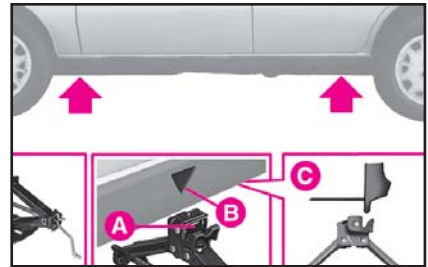

fig. 4
4) Arrange the jack at the symbol **B**-fig. 4 near the wheel to be changed and make sure that the groove **A** on the jack fits well into the sidemember **C**.